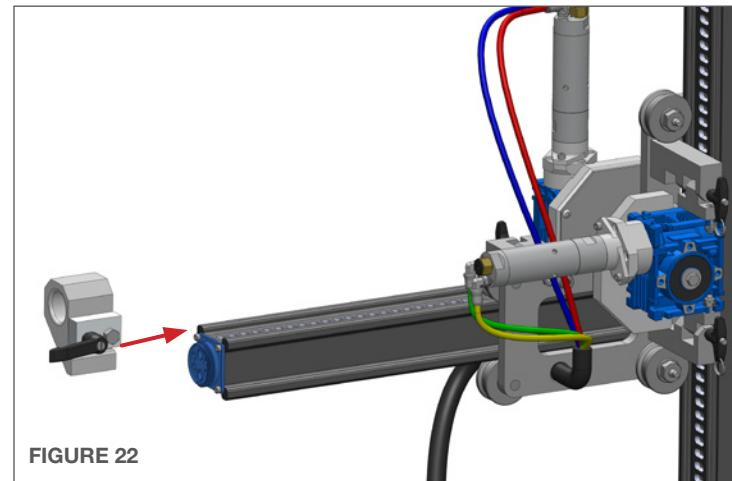

FIGURE 22
19. Slide the Rear Stop onto the socket end of the Horizontal Rail and tighten the Quick Release Lever so that it faces away from the Carriage Assembly as shown in **(Figure 22)**